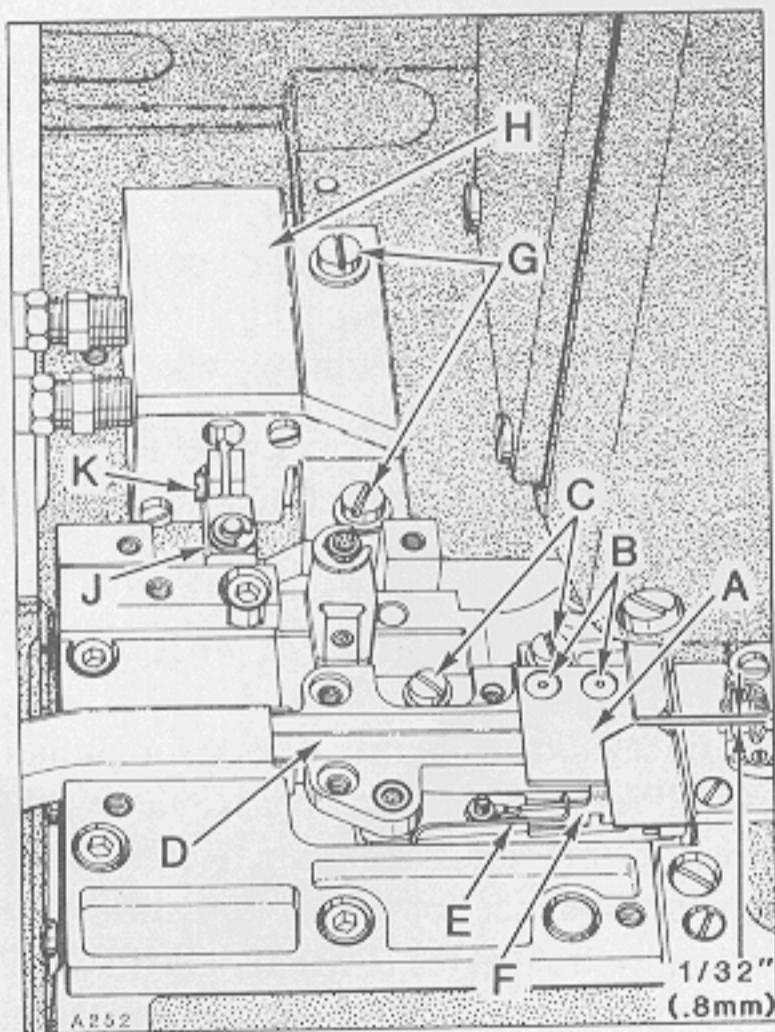

Fig.27
Upper knife (A, Fig. 27) can be replaced by removing two screws (B). To replace lower knife, the upper knife must be removed and rear suction tube cover. Loosen two screws (C) and slide housing (D) towards the rear. Remove throat plate support with throat plate attached. Remove screw (A, Fig. 28) and lift up thread inlet (B). Unhook knife spring (E, Fig. 27) and remove lower knife (F). Reassemble knives in reverse manner. Reassemble thread inlet (B, Fig. 28) and slide housing (D, Fig. 27) forward against rear of throat plate; tighten two screws (C).